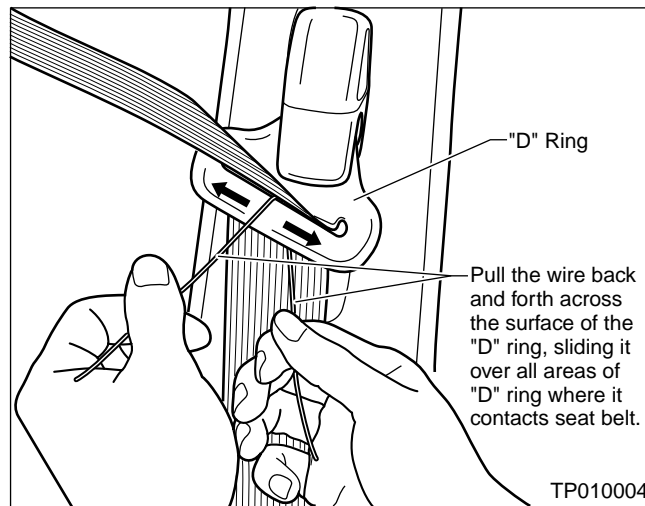

Figure 4
4. Pull the wire back and forth across the surface of the "D" ring, sliding it over all areas of the "D" ring where it contacts the seat belt (see Figure 4) until all residue is removed.